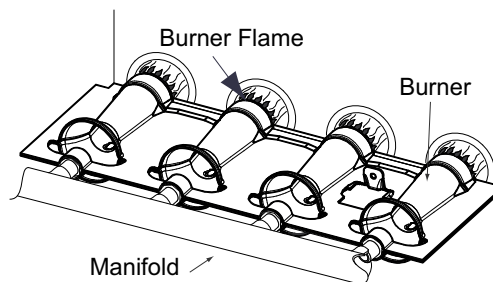

Fig. 64 – Burner Flame
- i. When correct input is obtained, replace cap that conceals gas valve regulator adjustment screws. Main burner flame should be clear blue, almost transparent See Fig. 64.